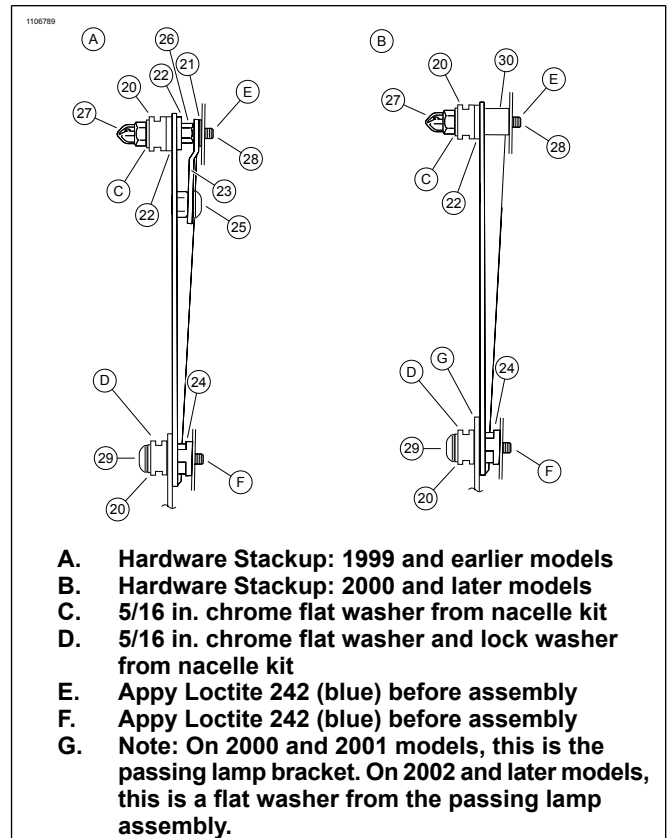

Figure 1. Hardware Stackup
- See Figure 1. With passing lamp assembly off of the vehicle, place top mounting hardware (21, 22, 23, 25, 26, and 28) on passing lamp brackets as shown. Tighten only the screws (25) located in the center position.
See exceptions for the next step in Figure 1,(G).